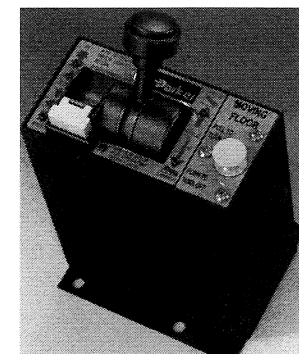

Figure 4
3. Turn the PTO switch on and use the Combo Valve AVCP-695-M-T-8 to control the CVA16DP valve using the lever control to raise, hold, or lower the dump trailer (Figure 4)
- b. Pull the moving floor button to the on position this will set the moving floor to the high pressure mode (Figure 4)
- c. Shift the hoist control to the raise position this will enable the moving floor controls on the trailer. (Figure 4)